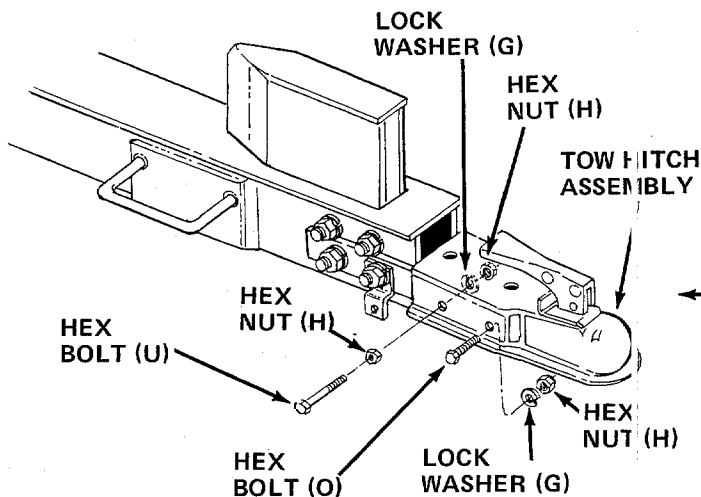

FIGURE 5
4. Place the tow hitch assembly in position on the tow hitch brackets. Secure the left side of tow hitch assembly with two hex bolts (O), lock washers (G) and hex nuts (H). See figure 5.
5. Secure the right hand side of tow hitch assembly with hex bolt (O), lock washer (G) and hex nut (H) in the front hole only.
6. Thread one hex nut (H) onto hex bolt (U). Secure rear hole in tow hitch assembly with this bolt, lock washer (G) and another hex nut (H).